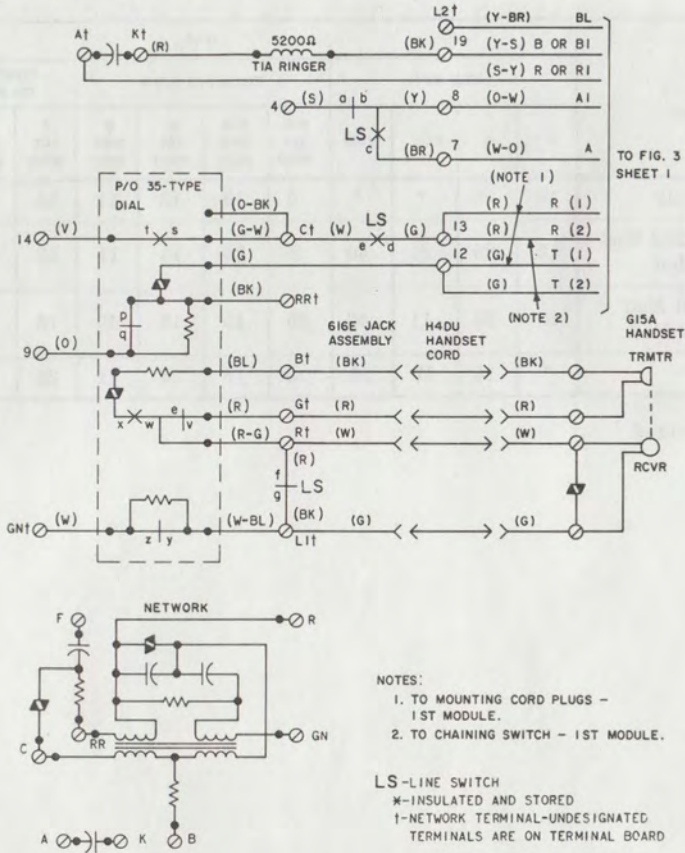

Fig. 1—2630DAM and 2631DAM Telephone Set, Connections
**1.01** This section contains information for the 2630DA (MD) or 2630DAM (18-button) and 2631DA (MD) or 2631DAM (30-button) (Fig. 1 and 2) telephone sets. These sets may be equipped with different modular key arrangements. The telephone sets will accommodate 635-type or 658A keys, 76A lamp sockets, and/or a 679A (MD) internal transmitter.
- Revise Fig. 1, 2, 3, and 4 to update information.